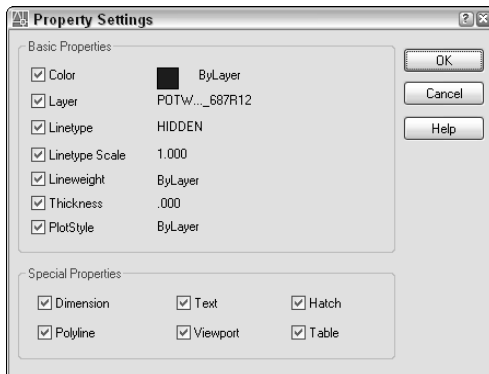

**Figure 11-29:** The Property Settings dialog box.
- If you want to match only some of the object's properties, right-click and choose Settings to open the Property Settings dialog box, shown in Figure 11-29. Uncheck all of the properties that you don't want to match and click OK. The previous prompt returns. Select the object(s) that you want to receive the matching properties, that is, the destination object(s).